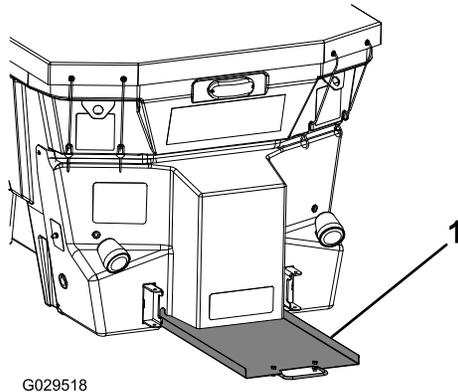

Figure 39
3. Lift up on the cleanout tray handle to clear the mount holes and slide the tray out (Figure 39).